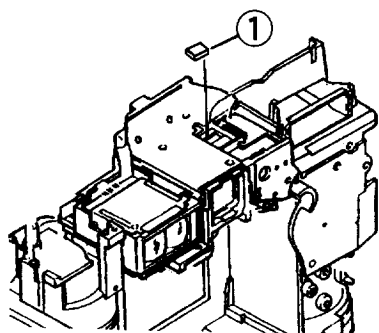

Fig38
- (1) Set the FILTER (①). (Fig. 38)
- (2) Set the part of IF FPC (⑤) then set the MAIN PCB (⑫) and the FRONT PCB (④) to the BOD together.